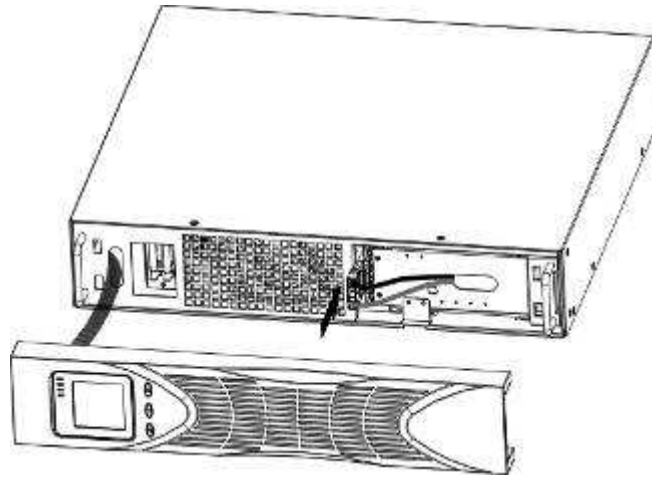

Figure9 Connecting the UPS Internal Batteries
2. Connect the internal battery connector (see Figure9)